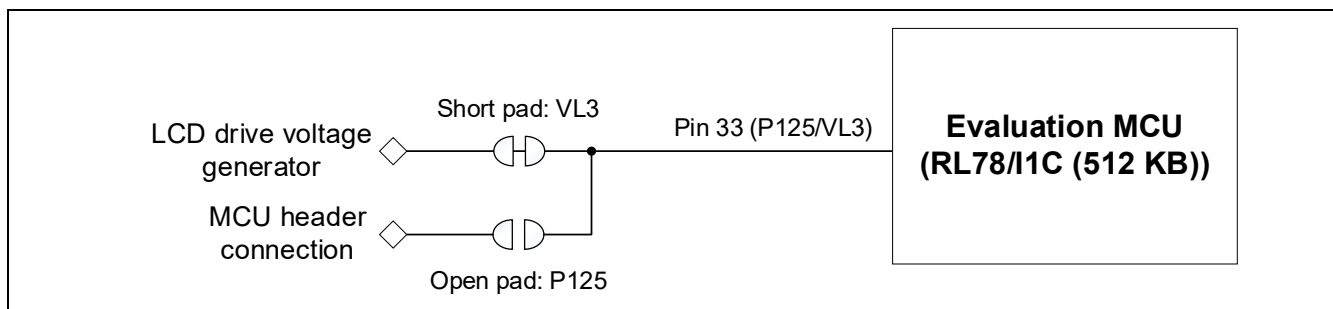
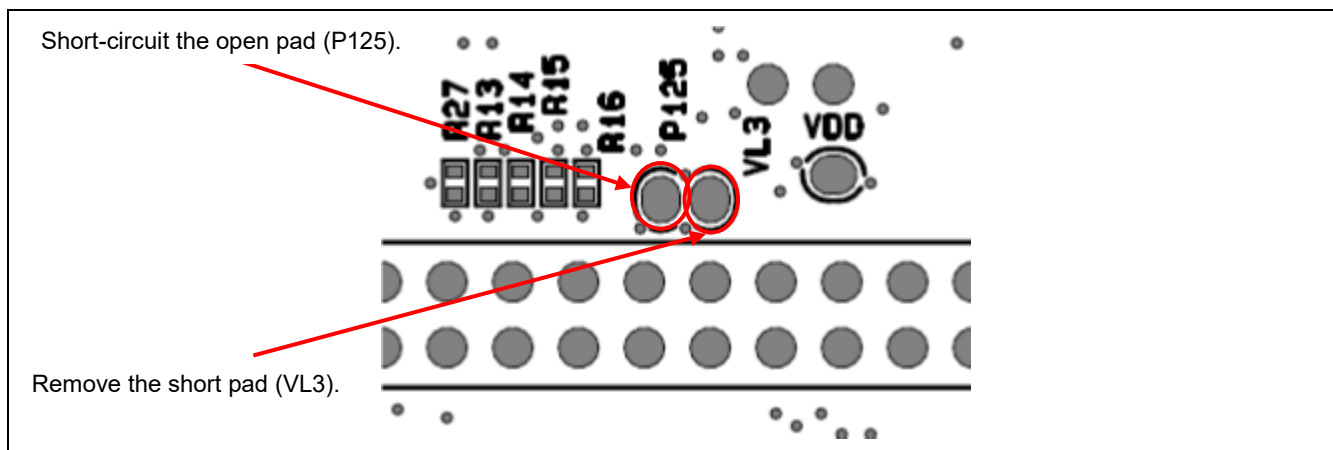

Figure 5-12 Block Diagram of Switching between VL3 and P125 (*3)
Figure 5-13 Positions to be Modified when P125 is to be Connected to the MCU Headers (Soldered Side) (*3)
- *3. This pin is for use as the LCD drive voltage generator with the VL3 function on the board as shipped and by default is not connected to the MCU header. If the MCU header is to be used, remove the short pad (VL3) and short-circuit the open pad (P125) on the back of the board (refer to Figure 5-12 and Figure 5-13).